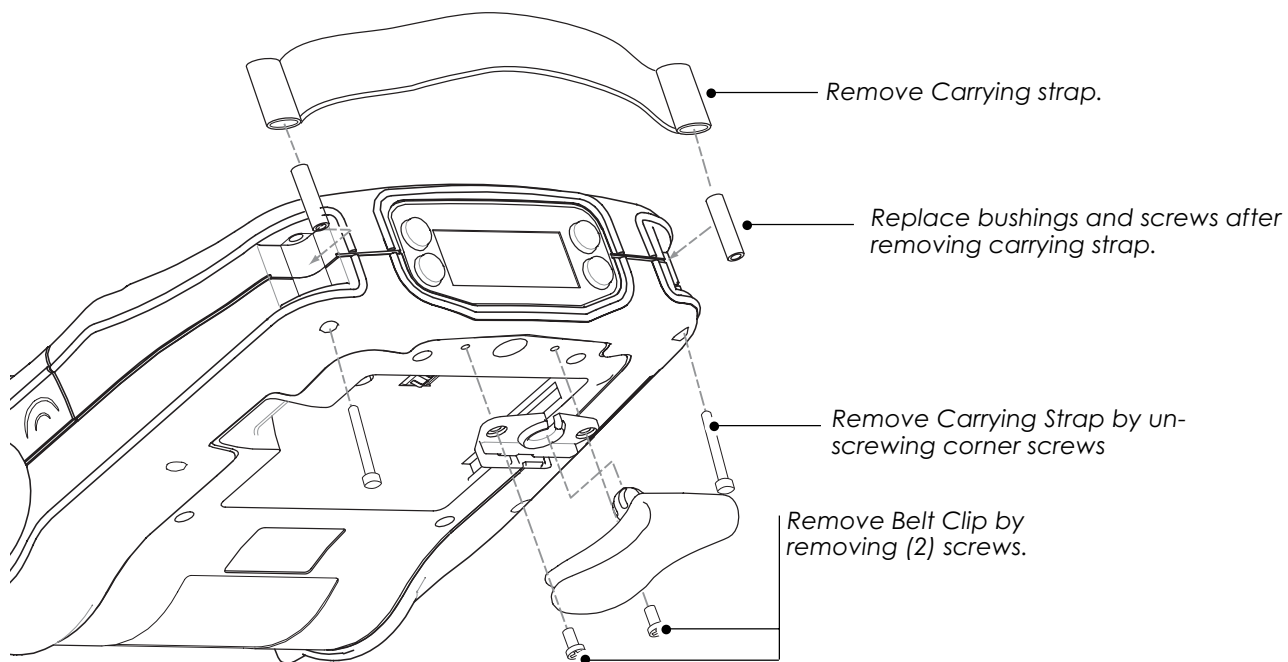

Figure 4:
- If your printer has a carrying strap, you must remove it by the following procedure (Refer to Figure 4) :
1. Unscrew the (2) #4-40 x 1" screws holding the top corners of the printer together.
2. Remove the Carrying Strap and the (2) Bushings.
- Remove the Belt Clip from the back of the Printer (Refer to Figure 4).